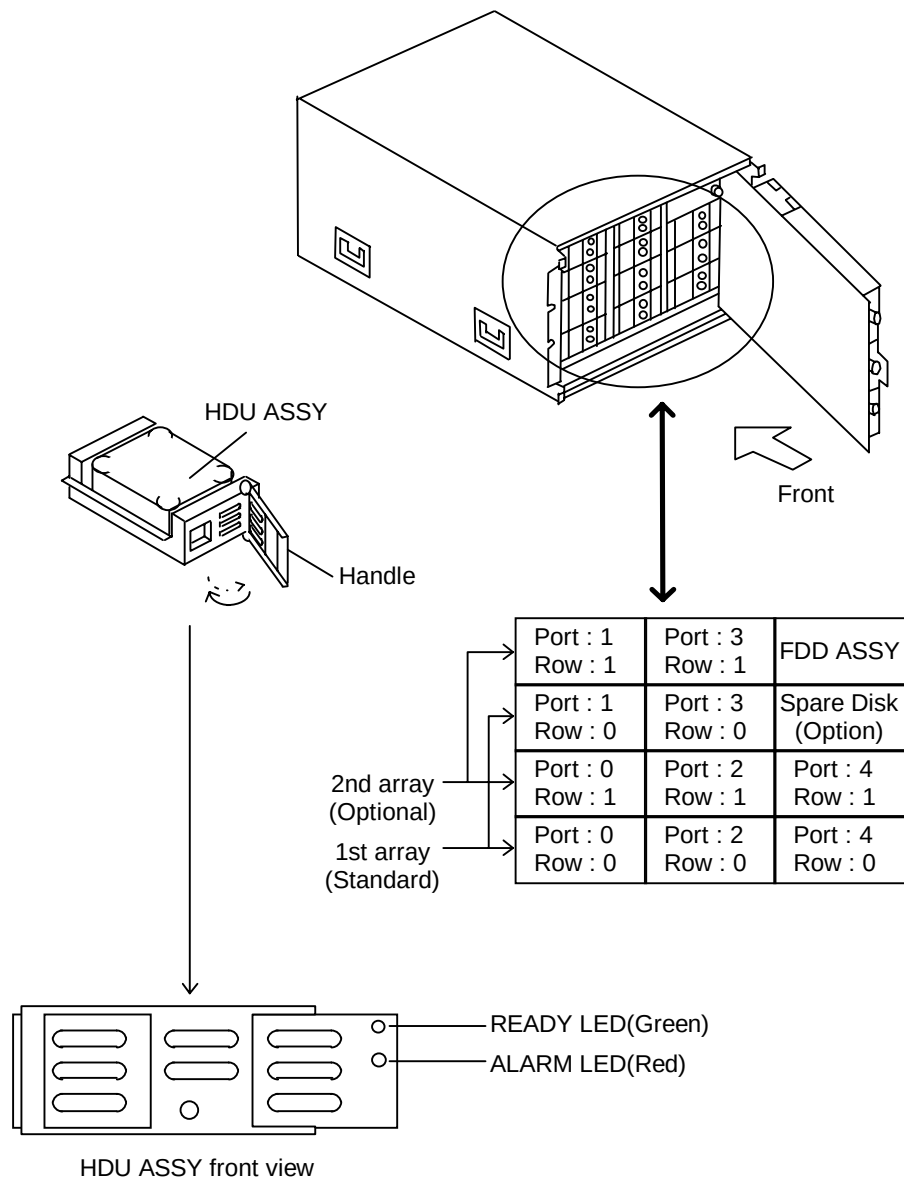

Figure 2.10.1 Installing the HDU ASSY
- (2) Remove the front cover and open the front panel.
(3) Remove the old HDU ASSY and set the new HDU ASSY. (See Figure 2.10.1 in RH-OPTION0230.)
(4) Set the DIP switches 4 and 6 on the CTL ASSY to down.